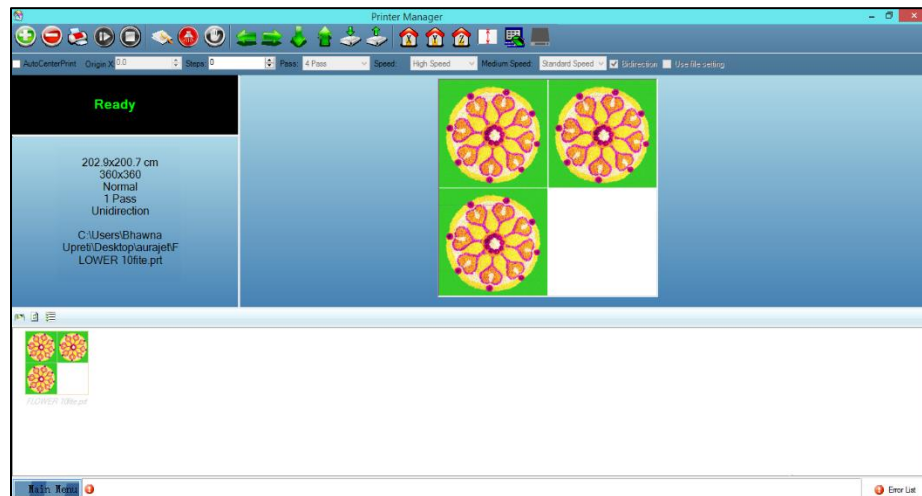

Fig 39: Displaying the Added Job and Their Details
Step 2: Set values in the **Time Password** and **Language Password** fields as per the requirements (Refer to Fig 39).
Step 3: After feeding the passwords, click on the **Set** button in front of both the options (Refer to Fig 39).
Step 4: Click on the **Exit** button to close the **Password** window (Refer to Fig 39).